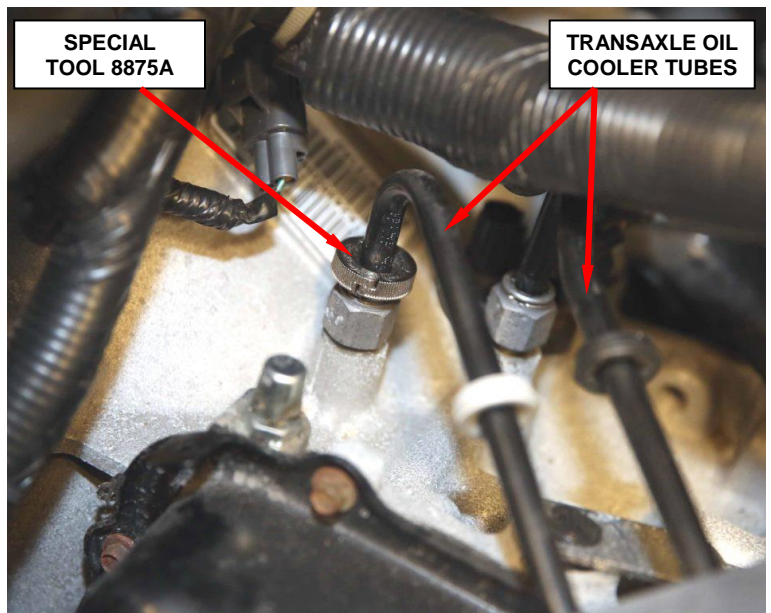

Figure 11 – Special Tool CY8875A
10. Using special tool CY8875A, disconnect the transaxle oil cooler tubes at the transaxle (Figure 11).